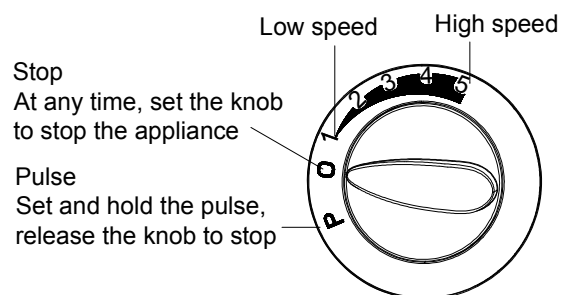

Fig.2
e) Connect the plug to wall outlet and set Speed Selector to your desired speed. The detailed information of Speed Selector is as following figure 2.